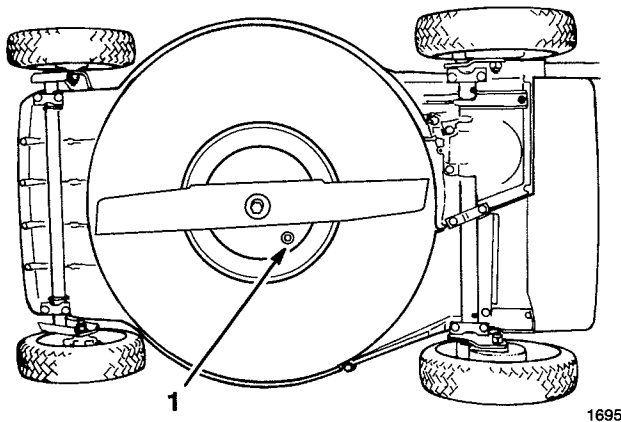

Figure 14
3. Tip mower on its right side (Fig. 14).
5. Remove drain plug from underside of mower (Fig. 14).